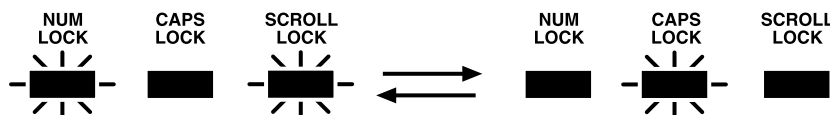

Figure 5-2. The password-lockout LED pattern.
- **Password-lockout indication—lightbar flashing.** As shown in Figure 5-2, while the Extender is locked and waiting for the user to enter a password (see **Sections 4.4** and **5.1**), it alternately lights the Num Lock/Scroll Lock LED pair and the Caps Lock LED on the primary keyboard. This pattern of flashing alternate LEDs is similar to that of the lights in the lightbar of a police car. Once you type in the correct password and press [Enter], these LEDs will stop flashing and return to their previous states.